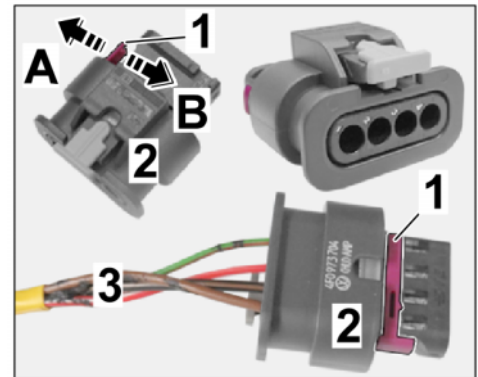

Figure 25
3.4.1 Release the socket housing (4-pin, see parts list). ⇒ *Figure 25-A-*
3.4.3 Lock the socket housing (4-pin, see parts list). ⇒ *Figure 25-B-*